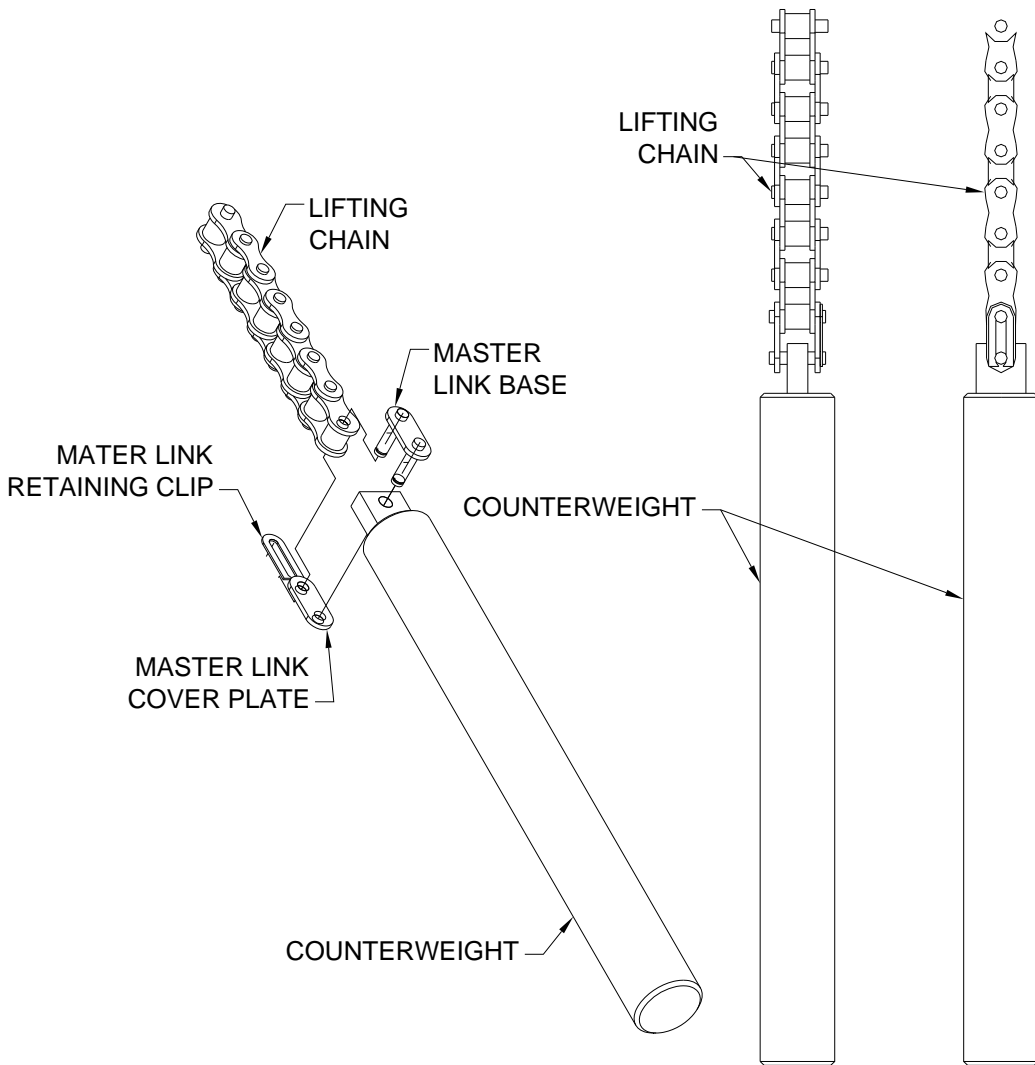

Figure 33 Counterweight Connection
8. Using the hardware provided, attach a counterweight to the end of each chain as shown in **Figure 33**.